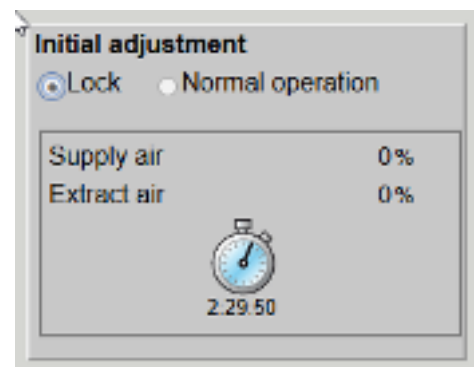

Fig. 43: Setting a lock period
- ⇒ Selecting 'Lock' displays the screen ( Fig. 43 ).